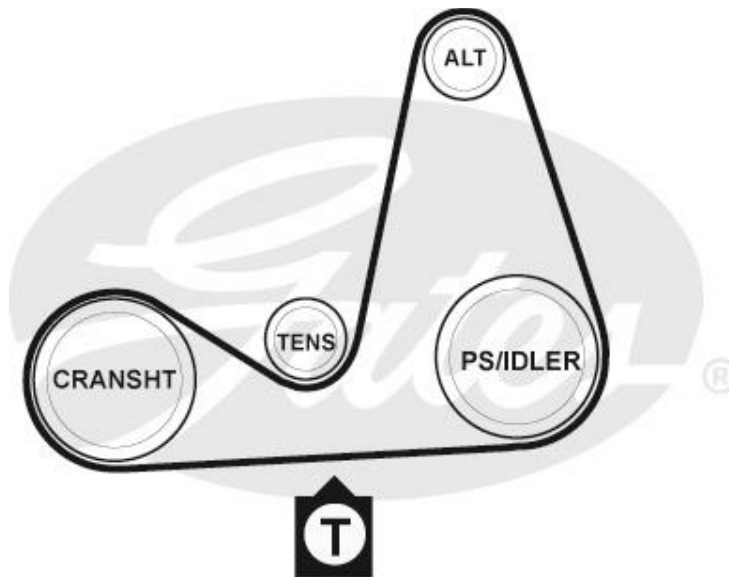

Fig. 1
8. Tension the belt: the belt has to be tensioned (with tool Mot.1638, OE ref. 0000163800) to a higher tension than with the original drive set-up. Measure the tension in the bottom span, between the crankshaft and power steering pump (or idler for cars without power steering) (Fig.1).